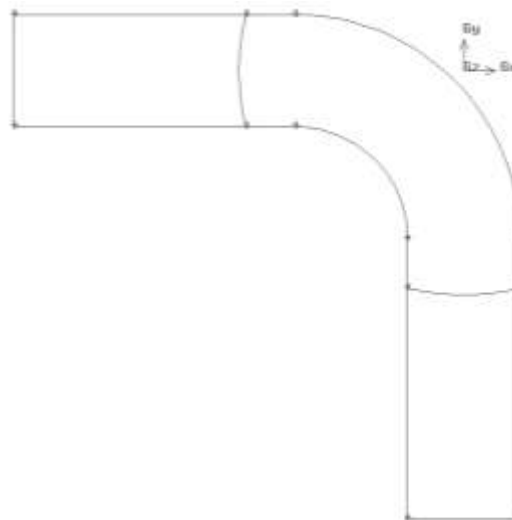

Fig. 4 Three surfaces.
6. Next some surfaces have to be merged in order to obtain the three surfaces as shown in fig. 4 **Create/Boolean/Unite**.